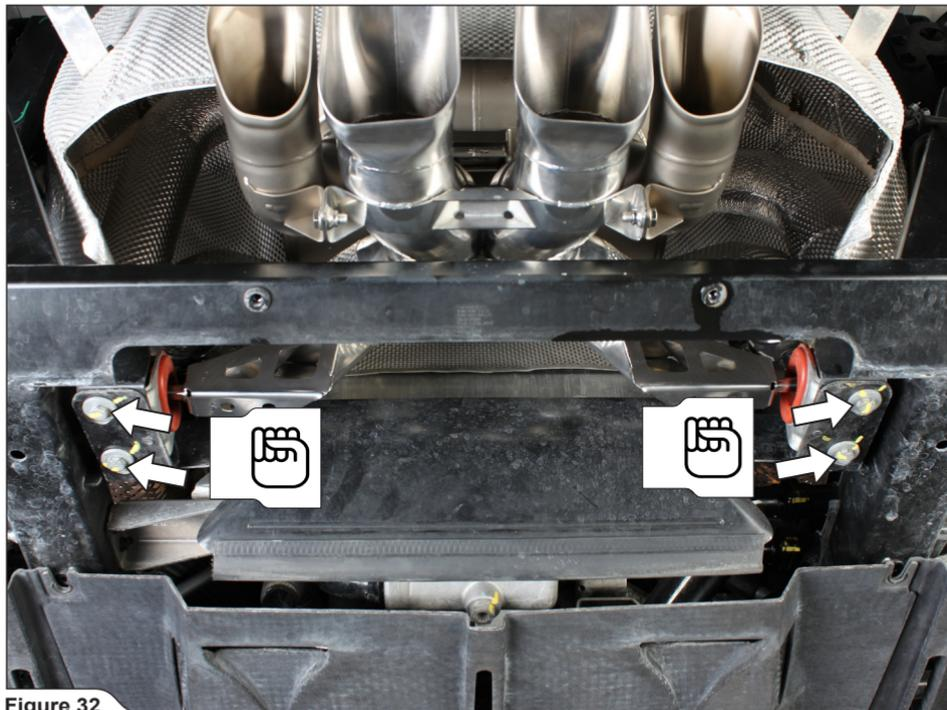

Figure 32
7. Hand tighten the marked muffler's lower brackets bolt onto the chassis, using stock bolts (Figure 32).